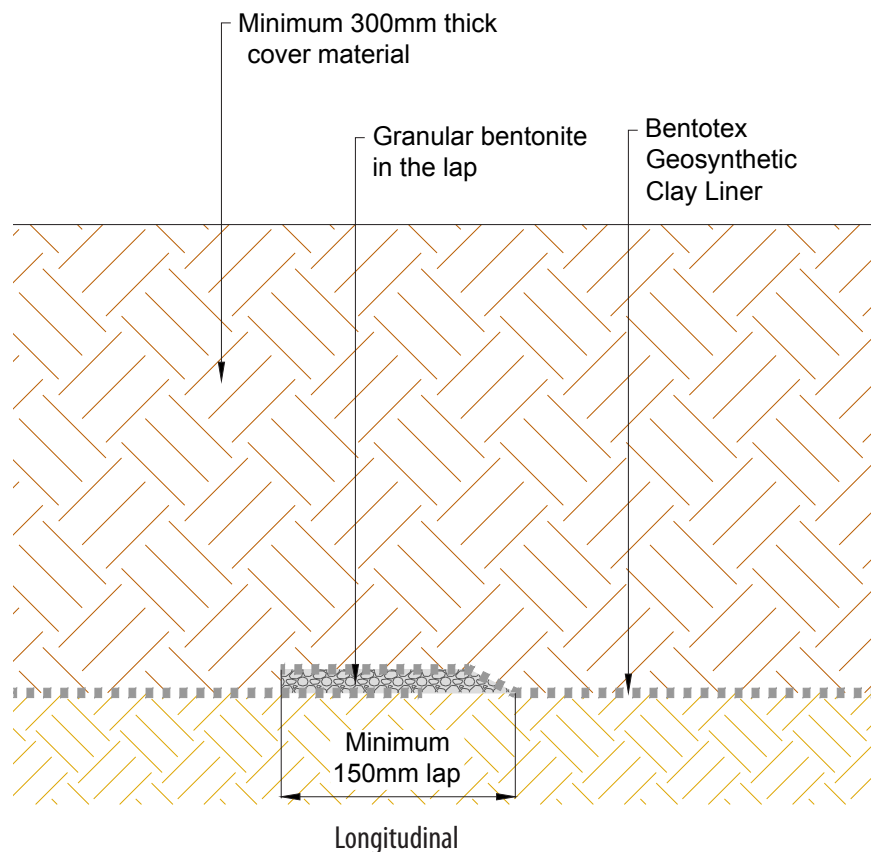

Figure 3. Bentonite-Enhanced Overlapped Seam
- 7.4 Bentonite-enhanced seams are constructed first by overlapping the adjacent panels as instructed previously, then exposing the underlying edge, and then applying a continuous bead or fillet of granular sodium bentonite (supplied with the GCL) along a zone defined by the edge of the underlying panel and the 150mm line (Figure 3). The minimum application rate at which the bentonite is applied is 0.4 kg/m.